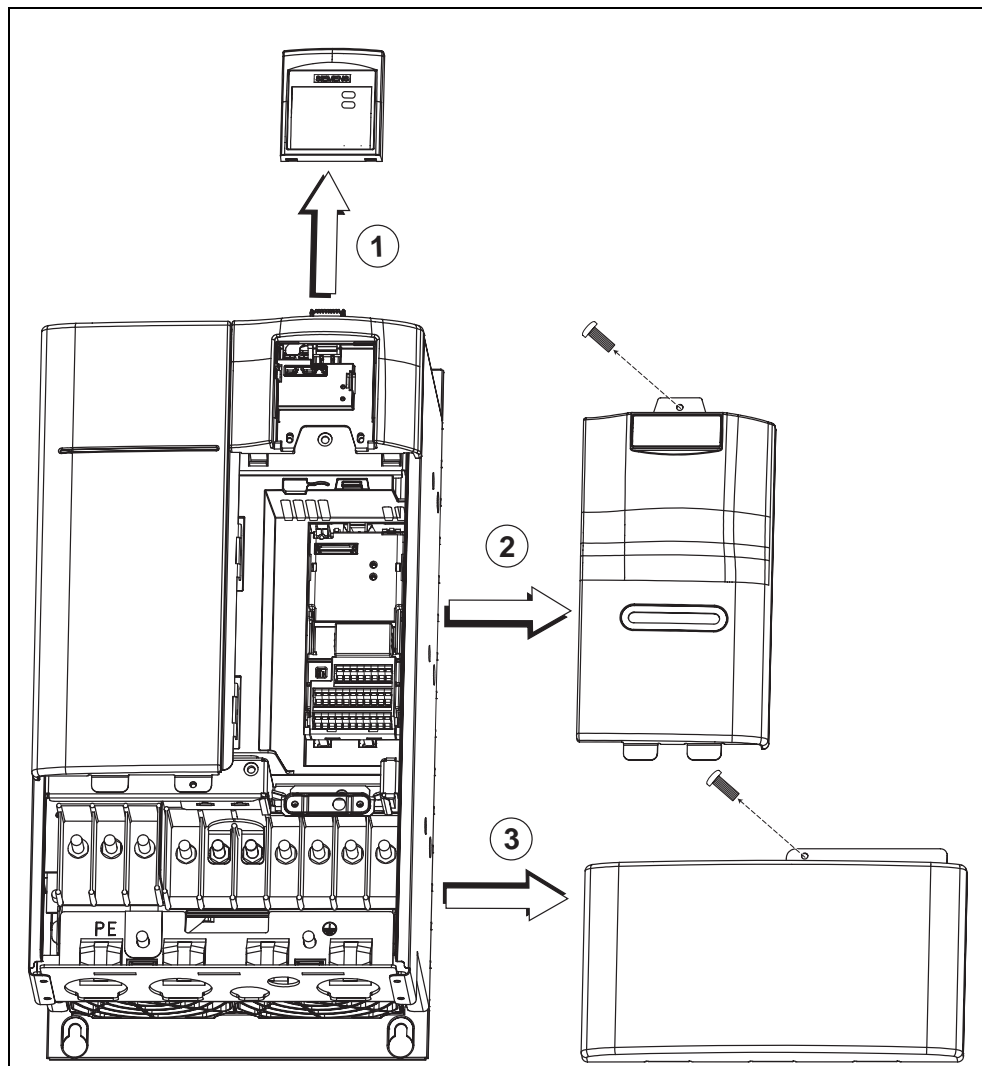

Fig. 2-3 Removing front covers (Frame Sizes D and E)
- Frame sizes D and E (Fig. 2-3)